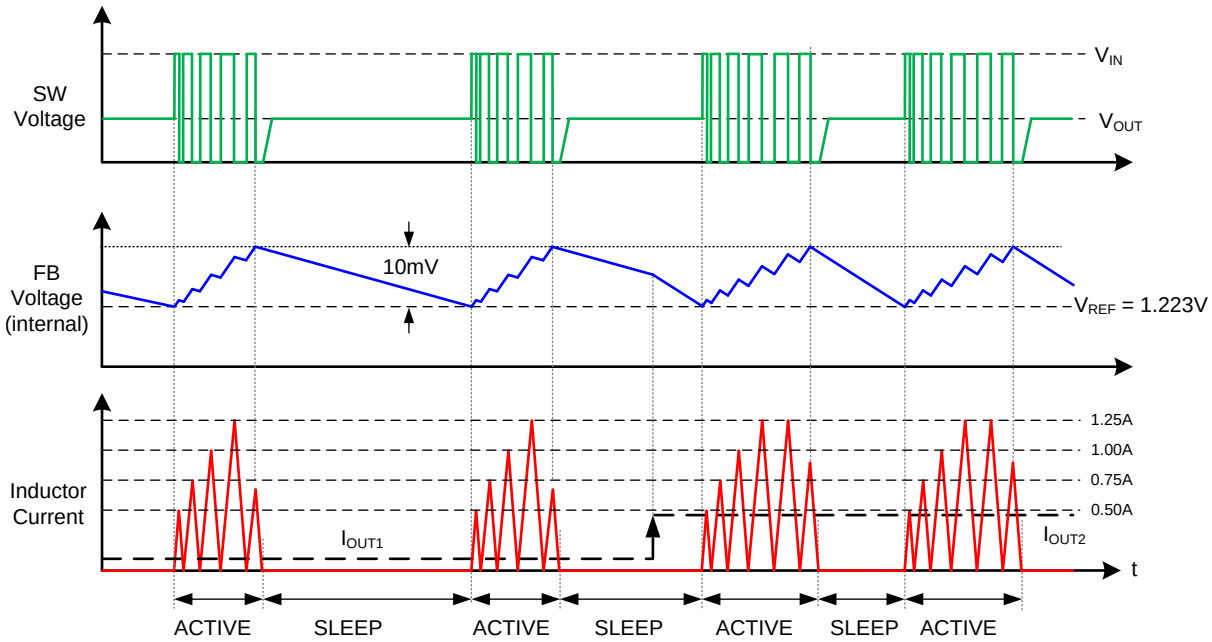

图 42. PFM Mode With Modulated I_{LIM} , Output Voltage and Inductor Current Representative Waveforms
One of the supported ILIM settings enables a function that modulates the peak current threshold levels during the first three switching cycles of each active period as illustrated in 图 42. This function improves efficiency under most application conditions at the expense of slightly degraded load transient response.
- (1) For this current limit threshold selection, the ILIM pin may also be left open instead of using a 100-k Ω or greater resistor.
- (2) This I_{LIM} setting enables a function that modulates the I_{LIM} levels during the first three switching cycles as illustrated in 图 42.